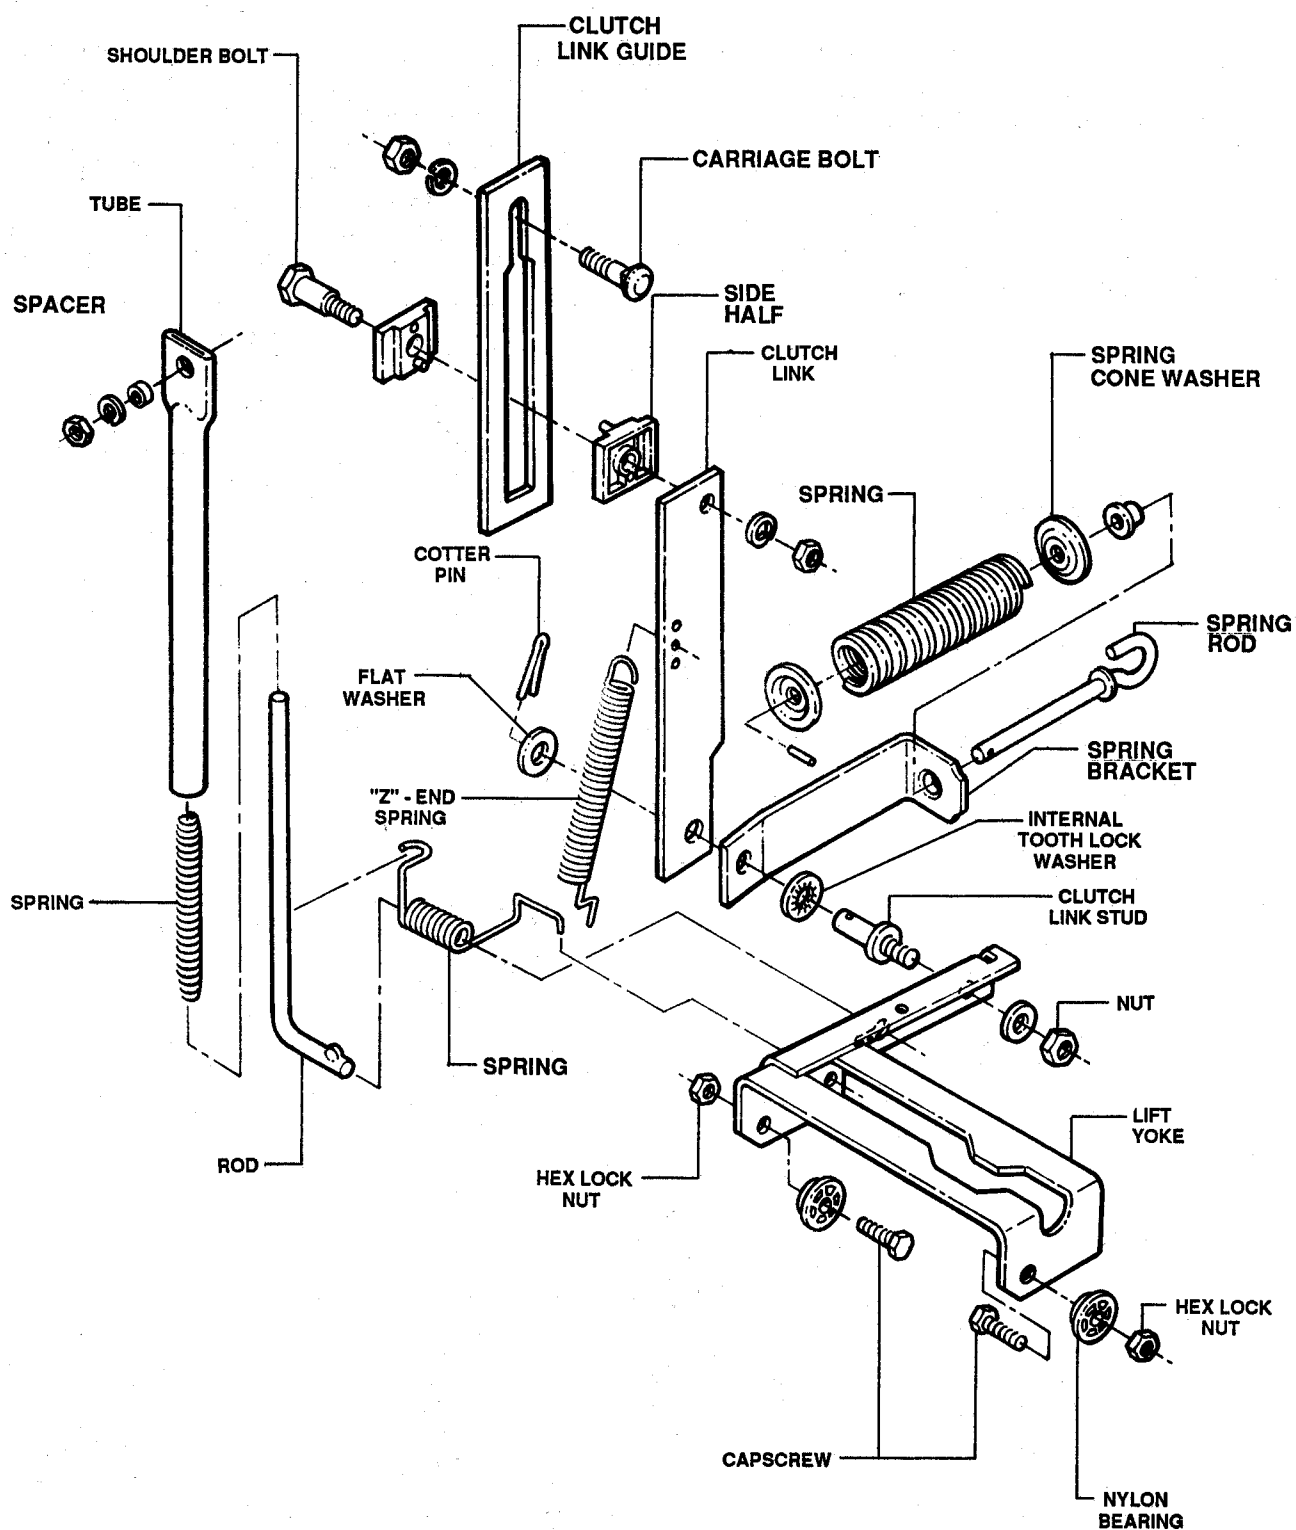

FIGURE 4.35
- A. Remove nut securing tube to shifter arm. See Figure 4.35. Page 41.